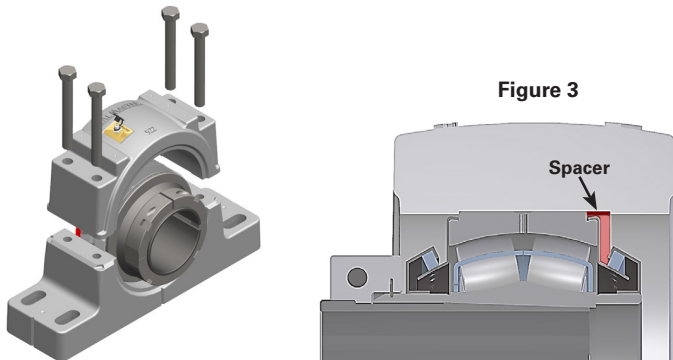

Figure 3
Step 2: Remove spacer element (see next page figure 3).